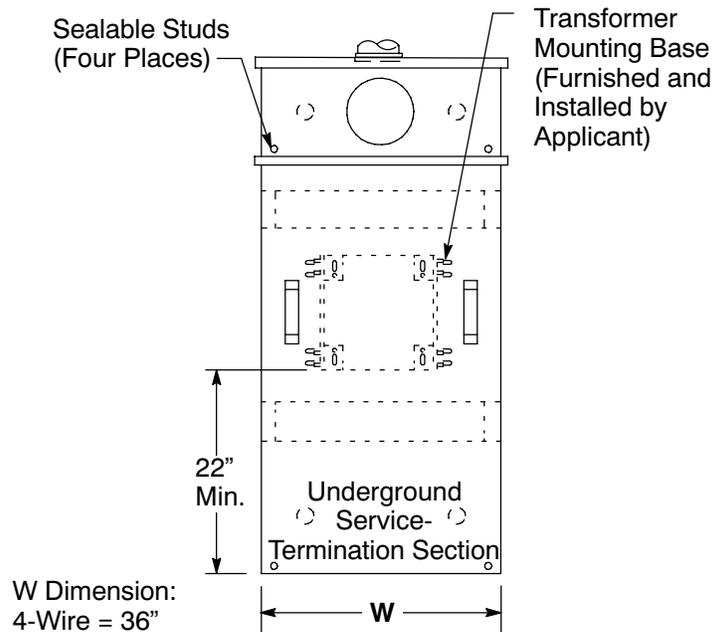

Figure 7-9
1. When installing a single, overhead, commercial or industrial, three-phase service, applicants must furnish, install, own, and maintain combination meter and current-transformer cabinets, as illustrated in Figure 7-9, "Overhead-Fed Combination Meter and Current-Transformer Cabinet, Three Phase (201 Amperes Through 400 Amperes)," shown below.